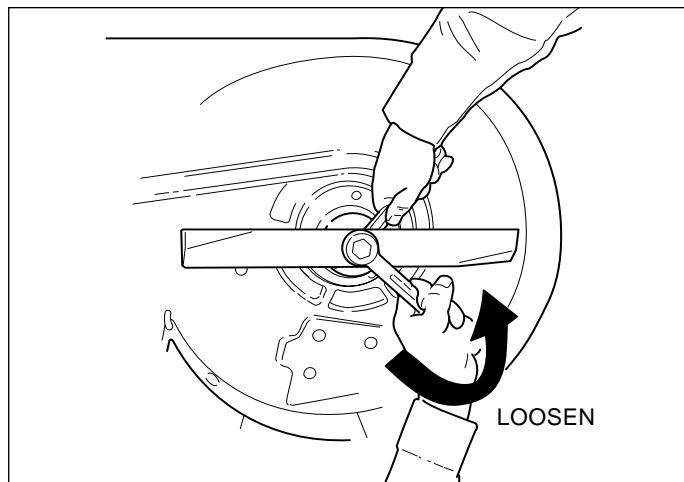

Figure 13. Removing the Blade
2. To remove blade for sharpening, use a 1" wrench on the flats of the spindle shaft while removing the blade mounting bolt with a 15/16" wrench (Figure 13).